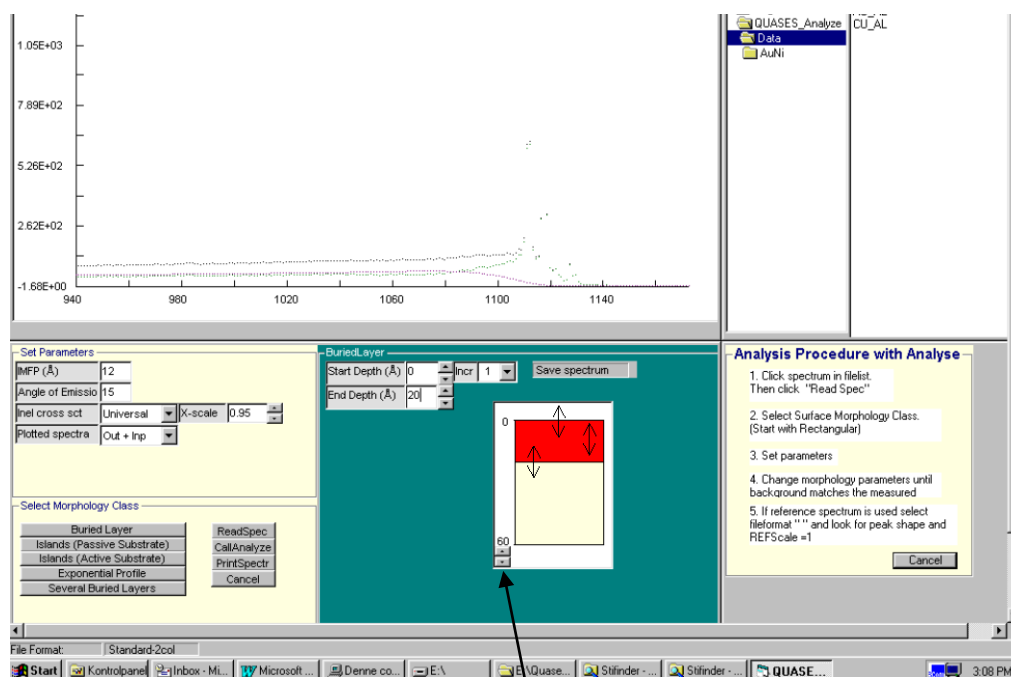

Figure 4.2
Then click **Buried Layer** and get fig. 4.2.
Click **Buried Layer** and get fig.4.2.
The maximum depth plotted in the inset picture may be changed by clicking the Up-Down arrow in the lower left part of the **inset picture**.(see fig.4.2).
- Move the mouse over the region of the Start or End depth in the inset picture. The mouse icon changes to an arrow (see fig.4.2). Now click the left mouse button, hold the button and drag the mouse icon to the new desired depth and finally release the mouse button.
- Move the mouse over the center depth of the rectangular profile. The mouse icon changes to an arrow (see fig.4.2). Now click the left mouse button, hold the button and drag the mouse icon to the new desired depth and finally release the mouse button.
The maximum depth plotted in the inset picture may be changed by clicking the Up-Down arrow (see fig.4.2).